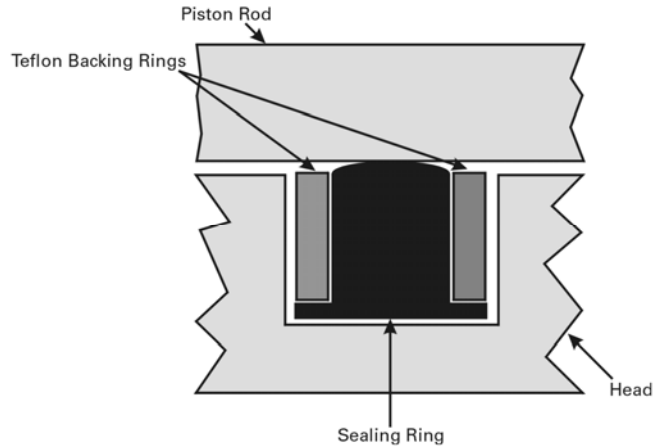

Figure 2 Rod Seal Arrangement
1. Install the piston rod seal as shown in Figure 2.